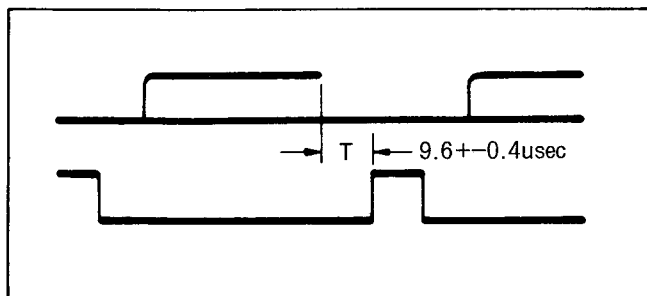

Fig. C33
- (1) Set the AF Gate Control (C703) as shown in Fig. C33.